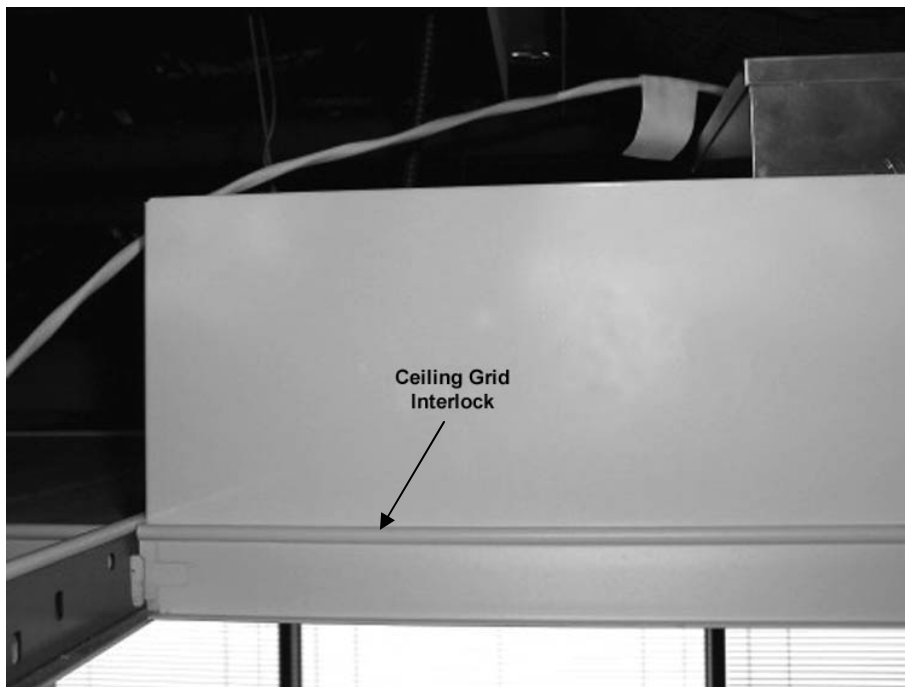

Figure 10: GPI Light & Grid Supports
4. Replace the grid interlock as seen in figure 10 above.